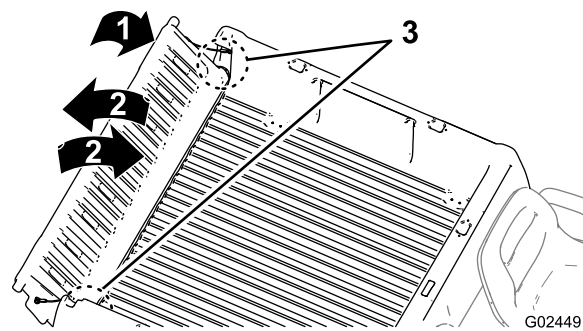

Figure 12
2. Rotate the tailgate to approximately 45° position (Figure 12).
3. Use a short, shaking motion to rotate the tailgate back and forth several times (Figure 12).